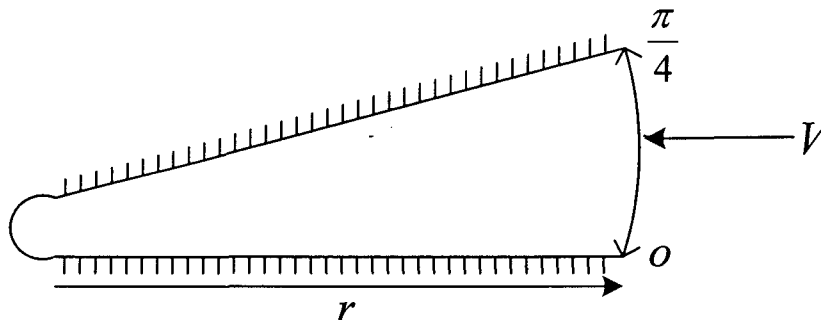

Figure Q4[b]
- [b] An inviscid, incompressible fluid flows between wedge-shaped walls into small opening as shown in Figure Q4[b]. The potential velocity (in m^2/s), which approximately describes this flow is